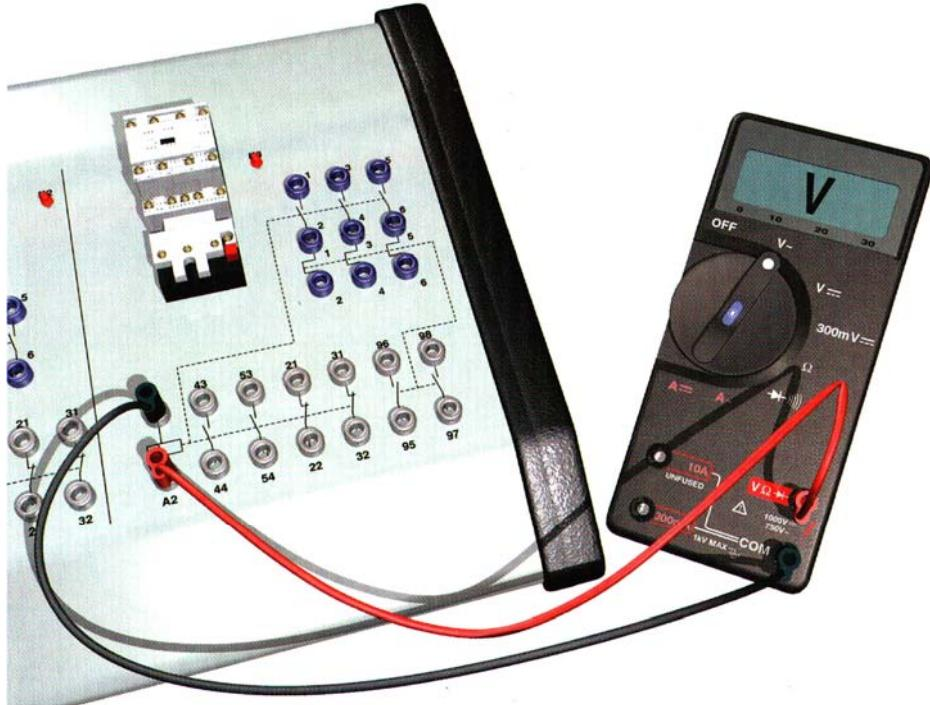

Fig.6.3 Universal instrument connected for measuring voltage.
- Connect the instrument as shown in Fig. 6.3.